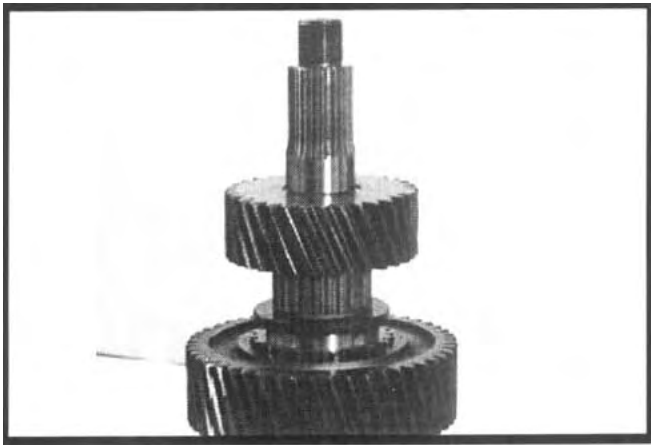

Figure 6.6
16. Heat and install the remaining gear. See Figure 6.6.